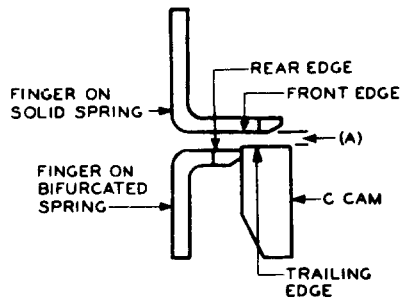

Fig. 15 - "C" Cam Position - Top View
(2) Fig. 15(A) - The clearance between the trailing edge of the cam and the front edge of the finger on the solid spring shall be